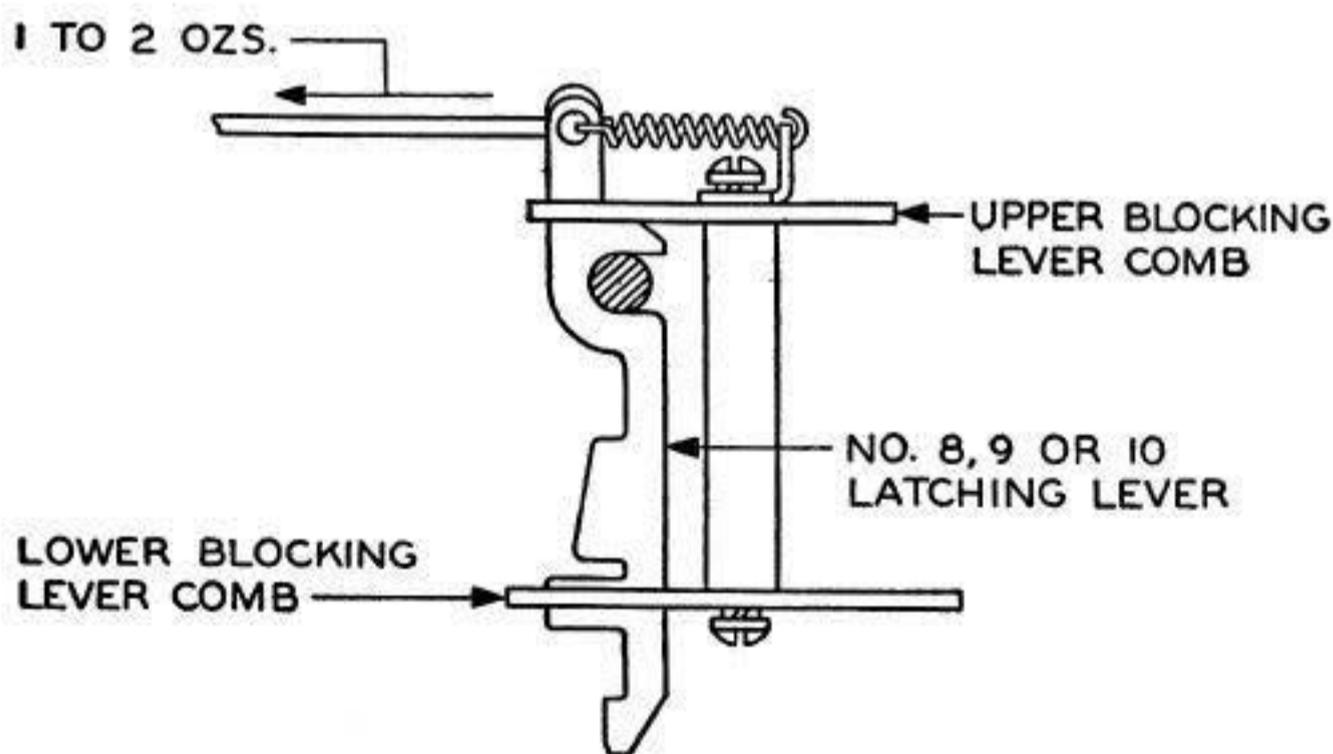

Fig 14
3.22 **Latching-Lever Springs in Positions 8-9-10:** (BS6L). It should require Min 1 oz, Max 2 oz, to start each of these levers moving. **Fig 14**